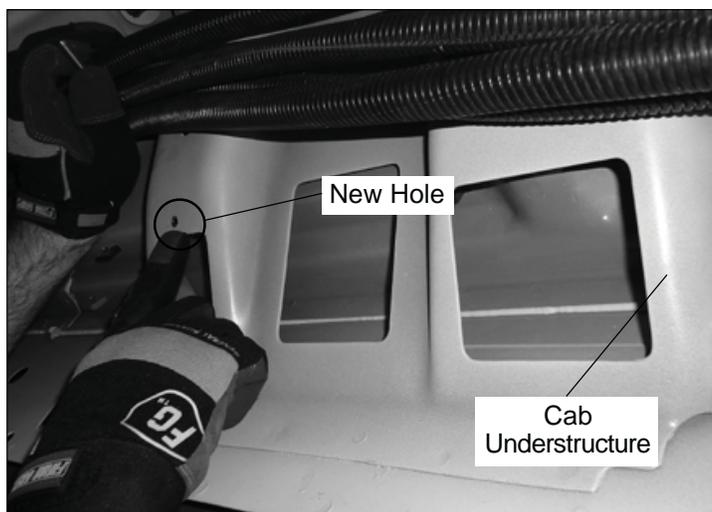

Figure 4 — Hole On Cab Understructure
9. Drill a $\frac{5}{16}$ " diameter hole in the chassis cab understructure (refer to Figure 4). There is an access hole to reach the back of the drilled hole to install a nut. Use caution to drill only through the cab understructure and not the floor panel of the cab.